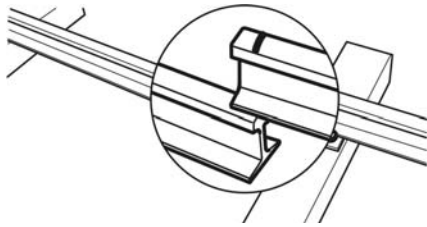

Figure 3
1. Verify that the track sections align properly. If they do not, mark the rail and using the Circular Saw, cut the rail to the required length. Refer to Figures 3 & 4.